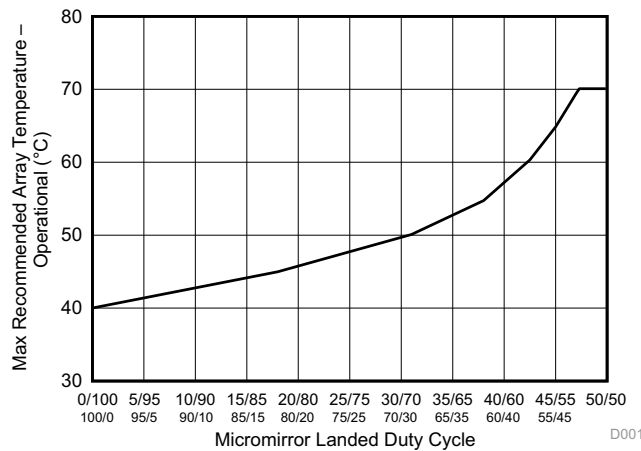

Figure 1. Max Recommended Array Temperature – Derating Curve
- (13) Per Figure 1, the maximum operational array temperature should be derated based on the micromirror landed duty cycle that the DMD experiences in the end application. Refer to Micromirror Landed-On/Landed-Off Duty Cycle for a definition of micromirror landed duty cycle.
- (14) Long-term is defined as the usable life of the device.
- (15) Array temperatures beyond those specified as long-term are recommended for short-term conditions only (power-up). Short-term is defined as cumulative time over the usable life of the device and is less than 500 hours for temperatures between the long-term maximum and 75°C, less than 500 hours for temperatures between 0°C and -10°C, and less than 25 hours for temperatures between -10°C and -20°C.